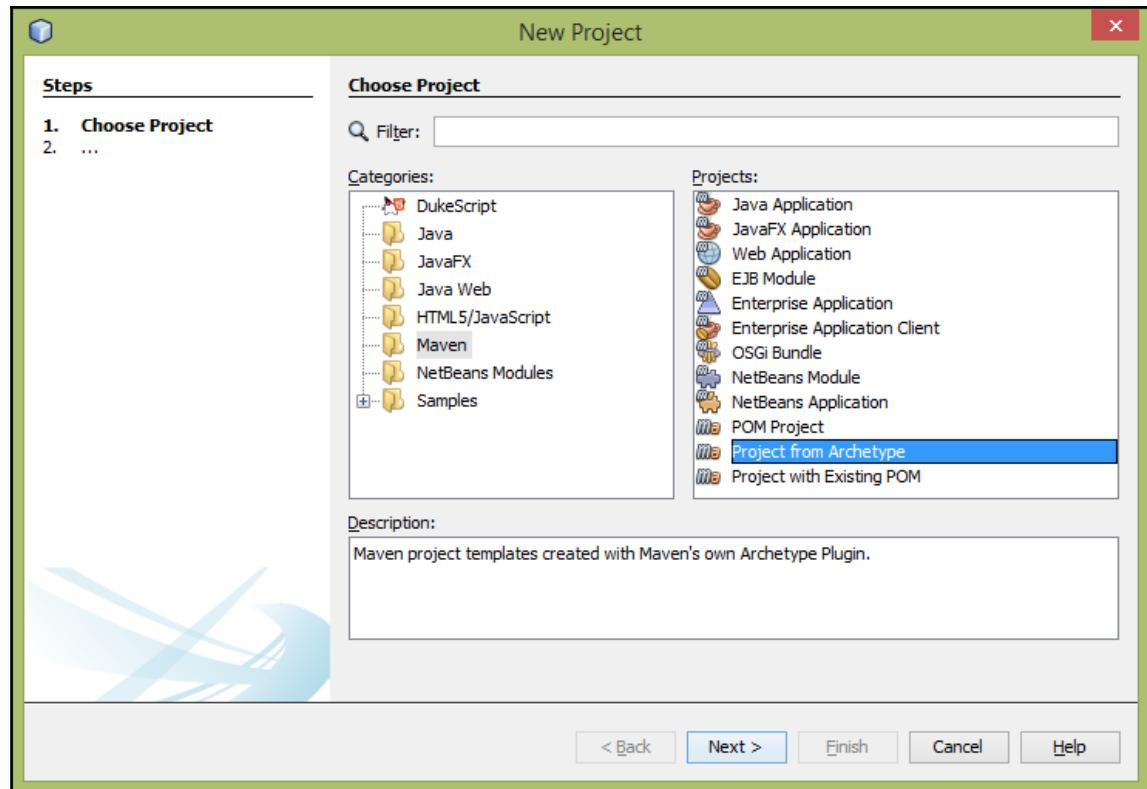

Figure 6-4: Choose project
2. In **Choose Project** (step 1), select **Maven** under **Categories** and **Project from Archetype** under **Projects**, as shown in Figure 6-4.